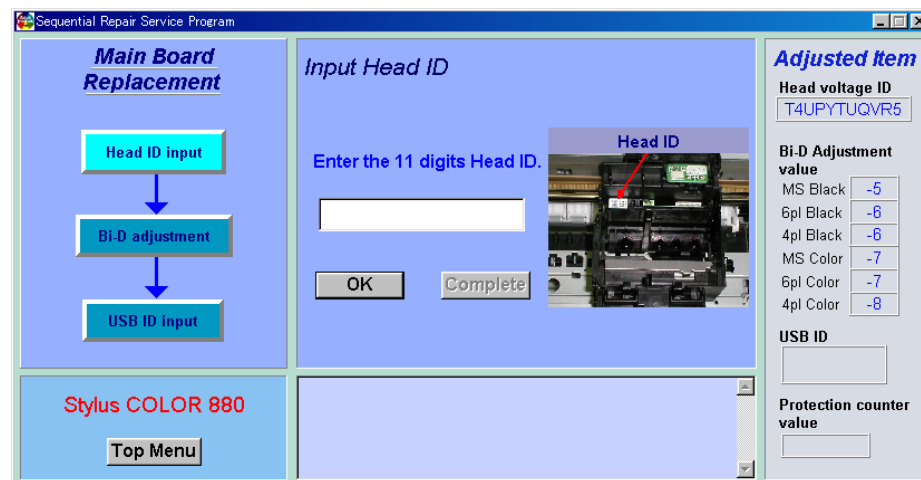

Figure 5-12. Input the suitable value
- Check the printed pattern. Choose the misaligned dot size and Input the suitable value in the menu and click the “OK” button. The input value is written in the specific address of the EEPROM. Refer to Figure 5-12. The value 0 (blue) appears in the center of the screen and changes the value by clicking the up/down icon. Apply the value for the most properly aligned pattern in the Bi-D adjustment pattern print. You can change the value by input the suitable value directly from the key board. In case the + value is input, the 2nd vertical printed pattern is shift to the left side. And in case the - value is input, the 2nd vertical printed pattern is shift to the right side.